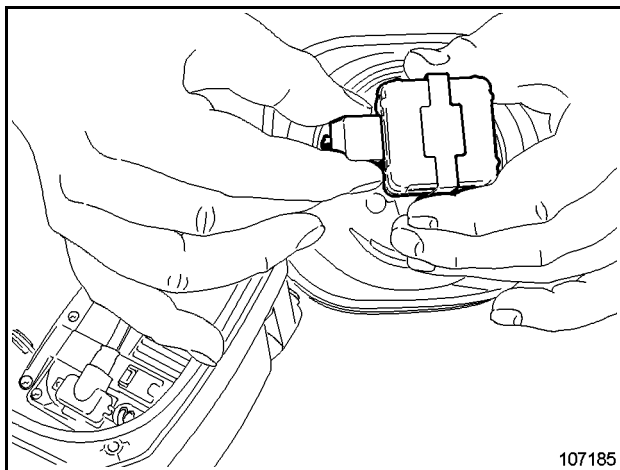

Fig. 3-32
- Withdraw connector (Fig. 3-32) from Xenon lamp socket.